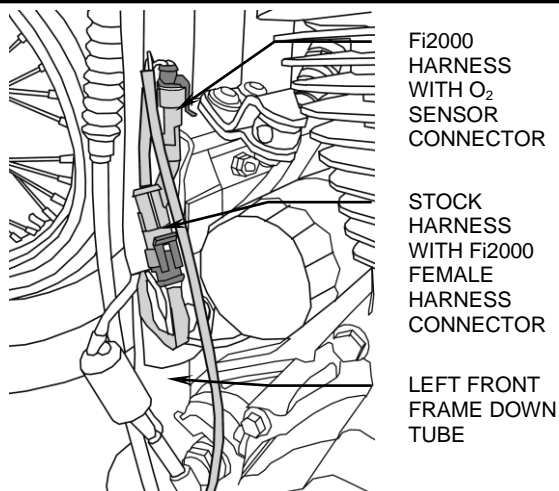

FIGURE 3
7. Now route the longer O₂ harness up along the upper frame rail next to the injector harness from Step 4, and forward to the left front frame down tube. Locate the front O₂ sensor connectors clipped to the left front frame rail and continue the front Fi2000 O₂ harness to here, see Figure 3. Unplug the factory connection and plug the corresponding Fi2000 connectors into the matching Harley connectors. Use the factory U-clip to hold the connections to the frame down tube. Ziptie the O₂ harness along the frame rail and behind the tank with 8 inch zipties. Attach the ground wire to the ground lug on the backside of the primary chain case area.
8. Before re-installing the seat and left side cover, verify your connections. Remove the door from the Fi2000 box to expose the LED's. Verify the wire connections by (1) turning the ignition on, prior to starting, and see if all three LED's are on steady. If you have no light, your ground connection (BLACK wire) has not made proper contact or your front injector connection is not complete. (2) After achieving a steady light from all three LED's, start the motorcycle, wait 15 seconds and let it idle, the green light should now be the only LED on. If all three LED's are still on after start up, verify you have attached the injector connectors correctly. Reattach the door when finished. **Note:** Make sure the ignition is turned off before changing any connection.